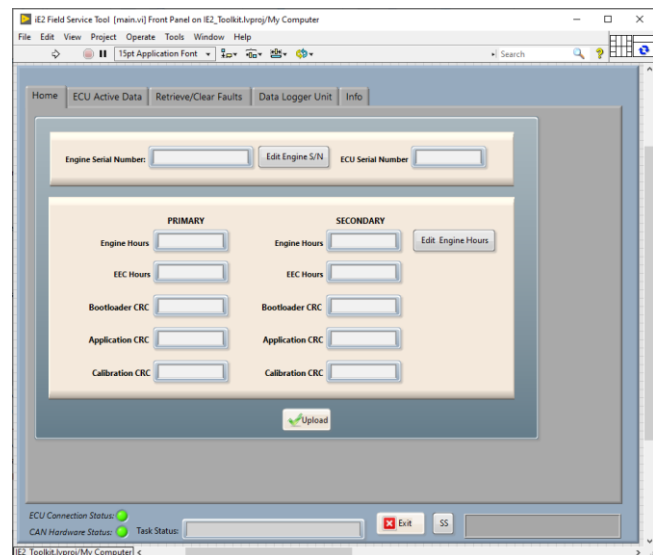

Figure 2
NOTICE: The program will open and display the Home screen (Figure 2). If the program does not open, refer to the “Field Service Tool - Software Problems” chapter in this manual.
1. Click the **Upload** button on the Home screen (Figure 2) to display: